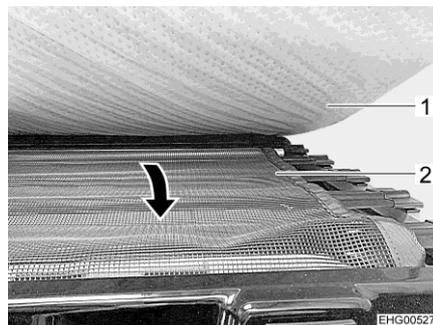

Fig. 36 Safety net
- Pull out the safety net (Fig. 36,2) from under the mattress (Fig. 36,1) and stretch it over the access orifice.